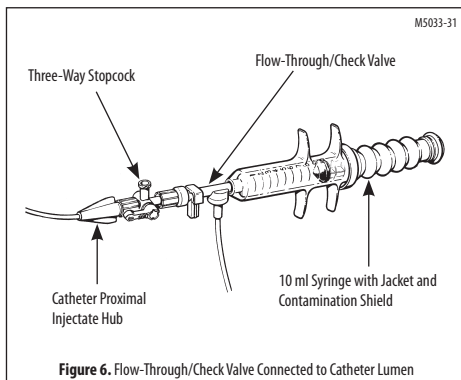

Figure 6. Flow-Through/Check Valve Connected to Catheter Lumen
1. Verify the absence of air in the fluid path. Attach the flow-through/check valve to the catheter injectate lumen stopcock (See Fig. 6).